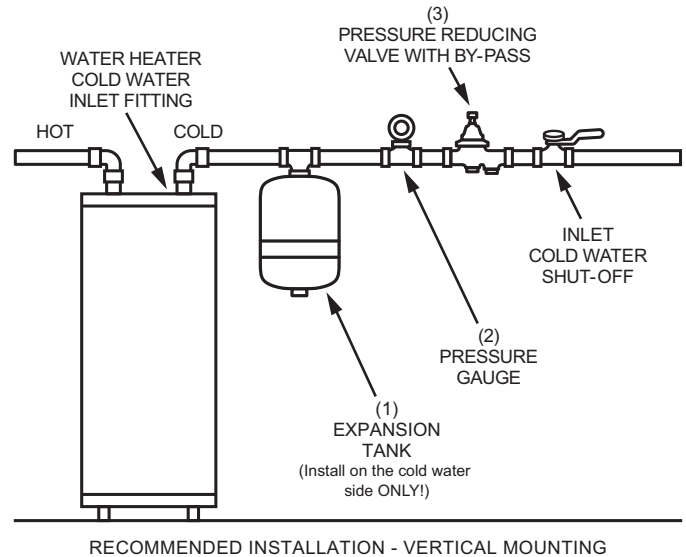

FIGURE 1.
2. The items which should be installed in sequence in the cold water line are (1) the EXPANSION TANK must be installed at least 18 inches away from the cold water inlet fitting on the water heater, (2) the PRESSURE GAUGE, and (3) the PRESSURE REDUCING VALVE, if required, see Figure 1.
Figure 1 above shows the correct valves and fittings that you will need to install your expansion tank. A threaded (3/4") water connection is supplied on the tank bottom.
2. Install expansion tank, pressure gauge and pressure reducing valve, if required, as shown above in Figure 1.